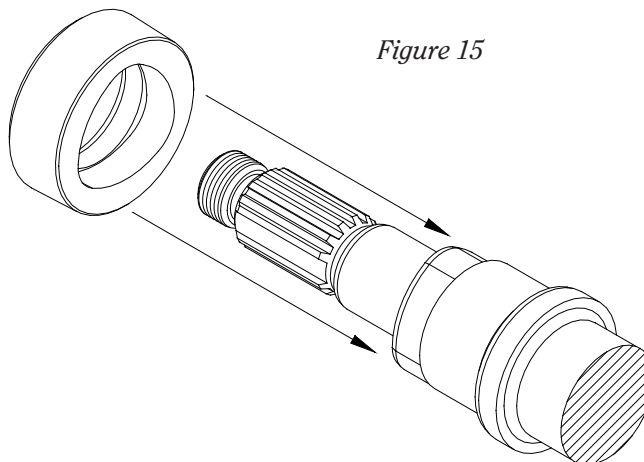

Figure 15
- d) Install the rotating seal onto the pump shaft (*Figure 15*). *Note:* the back of the rotating seal has a triangular recess that fits on to the triangular area of the shaft.